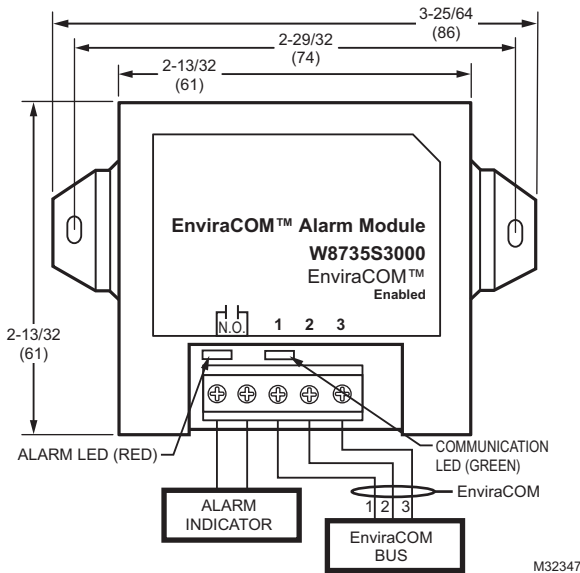

Fig. 1. W8735S3000 EnviraCOM Alarm Module wiring diagram.
2. Wire the 1,2, and 3 terminals on the EnviraCOM Alarm Module to the 1,2, and 3 terminals on the EnviraCOM™ enabled Oil Primary, Aquastat®, or any aforementioned EnviraCOM enabled controls, or anywhere on the EnviraCOM™ bus where access is available and convenient. See Fig. 1.
3. Connect the 2 wires from the alarming circuit (See Fig. 1) into the Normally Open (N.O.) terminals on the EnviraCOM Alarm Module.